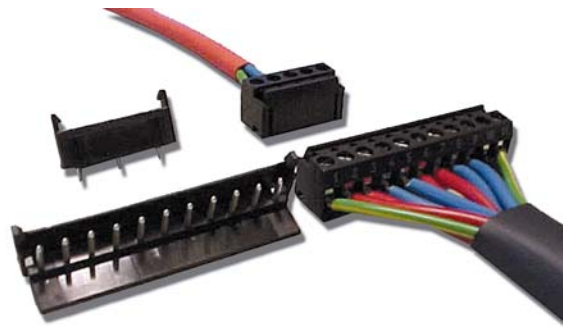

Fig. 20
Resistor  $R_{\text{ext1}}$ , connected between R (pin 2) and GND1 (pin 1) of the D-SUB connector or according to fig. 20.
**Note:** If the R function is not included in M1 or M2, refer to figure 20 how to connect  $R_{\text{ext1}}$  or  $R_{\text{ext2}}$ .
b) Adjustment by an external control voltage  $V_{\text{ext}}$  (1.25 – 2.75 V), connected between R (pin 2) and GND (pin 1) of the D-SUB connector or according to fig. 20.